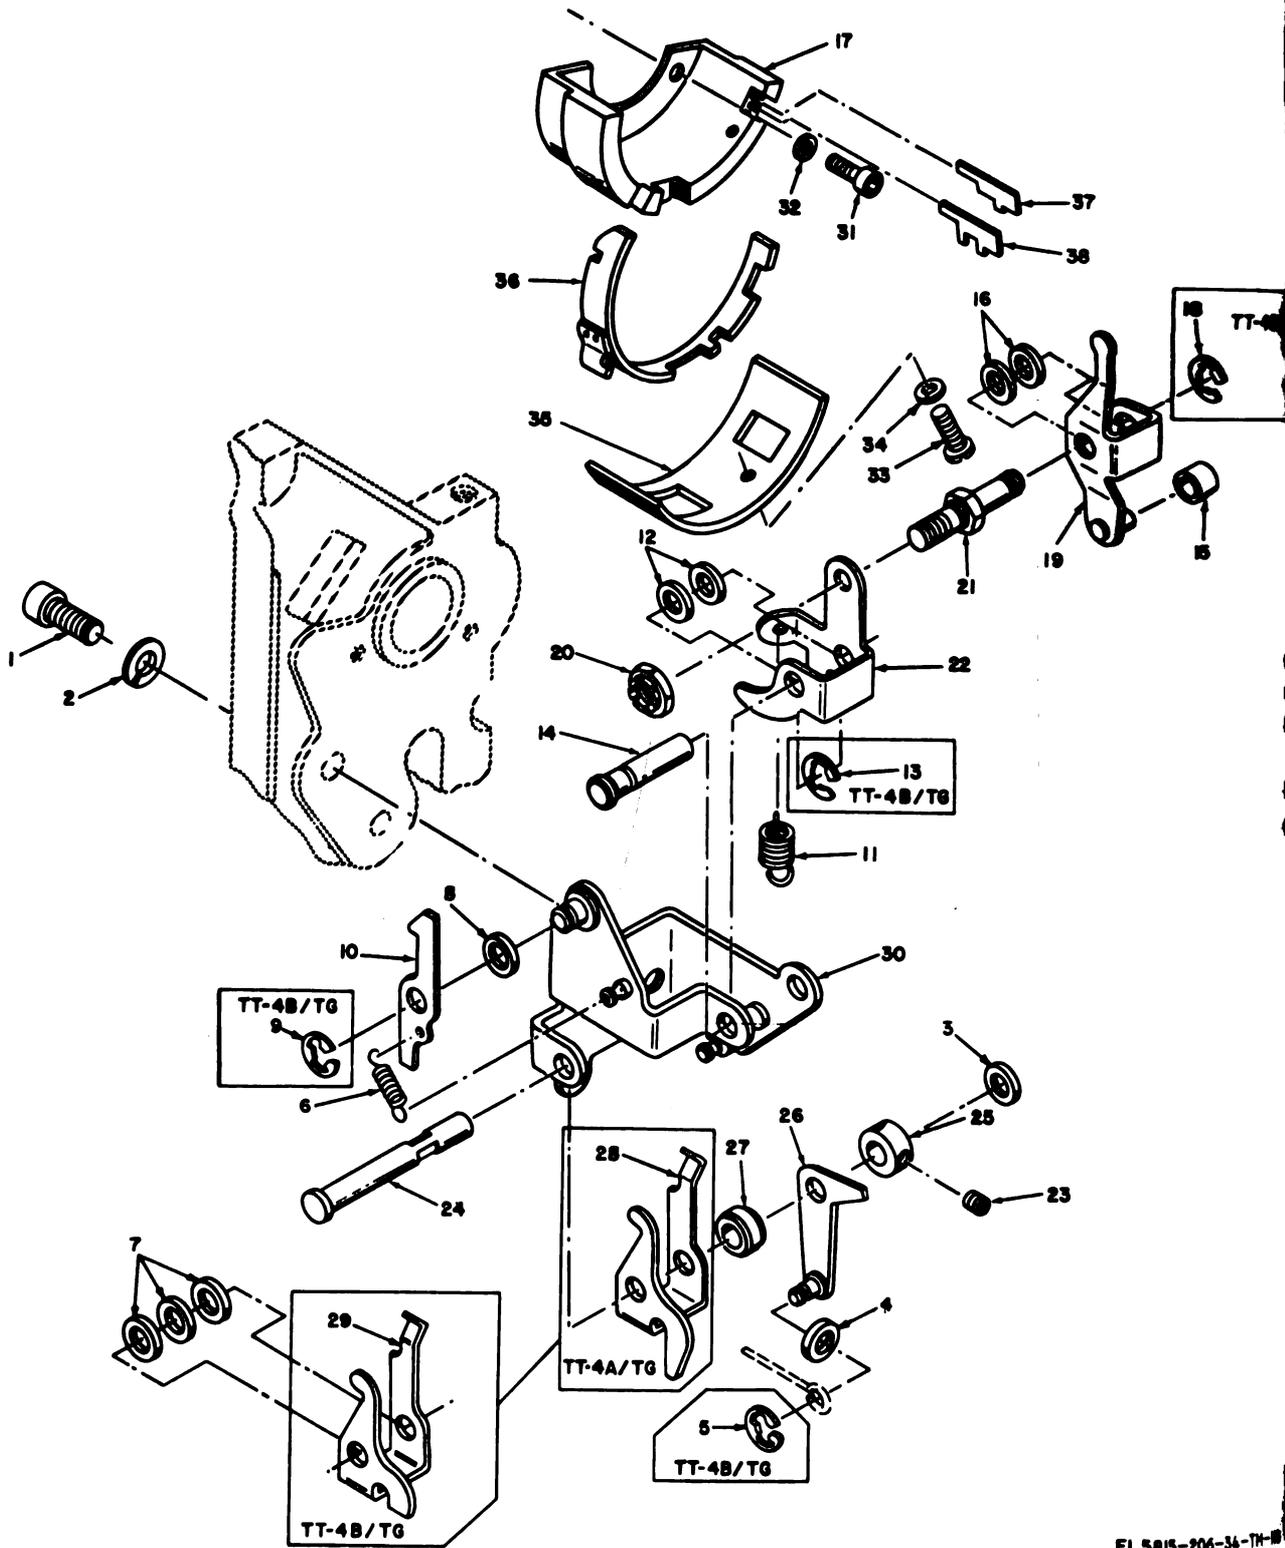

Figure 3-46. Function-selecting mechanism, exploded view.
downward until the signal-bell clapper (11) and the motor-stop actuating lever (14) are clear of their punch bars (fig. 3-46).
(fig. 3-46)
(2) Remove the two machine screws (1, fig. 3-46) and lockwashers that hold the function bracket (30) to the function side of the frame.
(3) On the TT-4A/TG and TT-698/TG, remove the cotter pin and flat washer (4) that hold the carriage-feed link (fig. 3-60) to the stud on the carriage-feed lever (26, fig. 3-46); remove the carriage-feed link from the carriage-feed lever. Remove the function bracket mechanism from the frame; be careful to disengage the cam-follower roller (15) from the function cam (fig. 3-51), the function-cam follower (19, fig. 3-46) from the function-selecting arm (fig. 3-50) and the function bracket (3-46) from the manual carriage-return link (fig. 3-59).
(4) On the TT-4B/TG, TT-4C/TG, TT-335/TG, TT-537/G, TT-698A/TG, and TT-698B/TG, remove the retainer ring (5, fig. 3-46) that holds the carriage-feed link (fig. 3-60) and felt lubricating washer (4), when supplied to the stud on the carriage-feed lever (fig. 3-46); remove the carriage-feed link from the carriage-feed lever. Remove the function bracket mechanism from the frame; be careful to disengage the cam-follower roller from the function cam (fig. 3-51), the function-cam follower (fig. 3-46) from the function-selecting arm (fig. 3-50) and the function bracket (fig. 3-46) from the manual carriage-return link (fig. 3-59).
(5) Remove the platen-latch spring (6, fig. 3-46) from the platen latch (10) and from the spring post on the function bracket.
(6) On the TT-4A/TG and TT-698/TG, remove the cotter pin and flat washer that hold the platen latch to the stud on the function bracket; remove the platen latch.
(7) On the TT-4B/TG, TT-4C/TG, TT-335/TG, TT-537/G, TT-698A/TG and TT-698B/TG, remove the retainer ring (9) that holds the platen latch to the stud on the function bracket; remove the platen latch.
(8) Remove the support-lever spring (11) from
(18) Remove the two machine screws (fig. 3-46)
KEY to fig. 3-46:
(1) Reassemble the function-selecting mechanism as indicated in figure 3-46; in sequence assembling the parts is the reverse of the assembly sequence.
(2) Adjust the function-selecting mechanism (3-171, 3-172, 3-173, and 3-252).